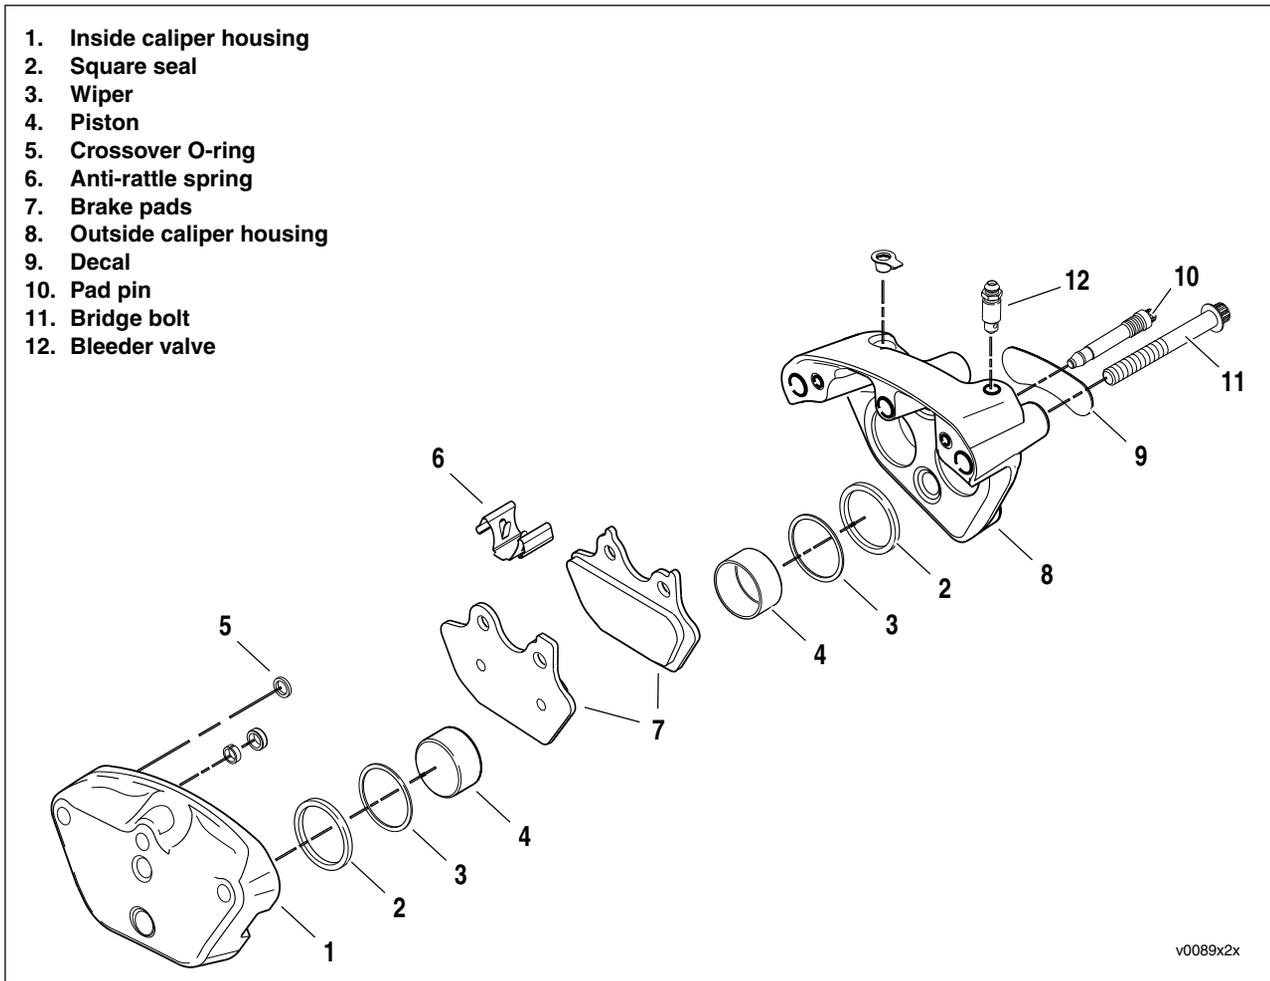
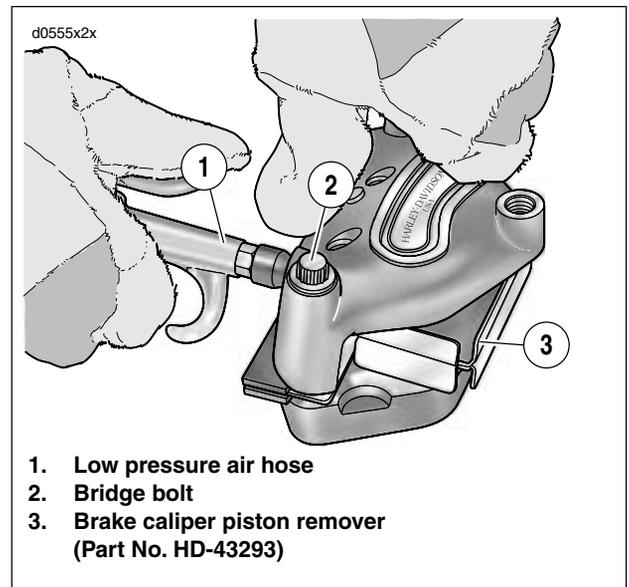

Figure 2-43. Front Brake Caliper
Figure 2-45. Unseating Pistons
- See Figure 2-43. Remove pad pins (10), brake pads (7) and bridge bolts (11) to separate caliper housings (1, 8).
- Remove anti-rattle spring (6). If necessary, remove bleeder valve (12).
- See Figure 2-45. Remove pistons.
- Insert two bridge bolts (2) and tighten securely.